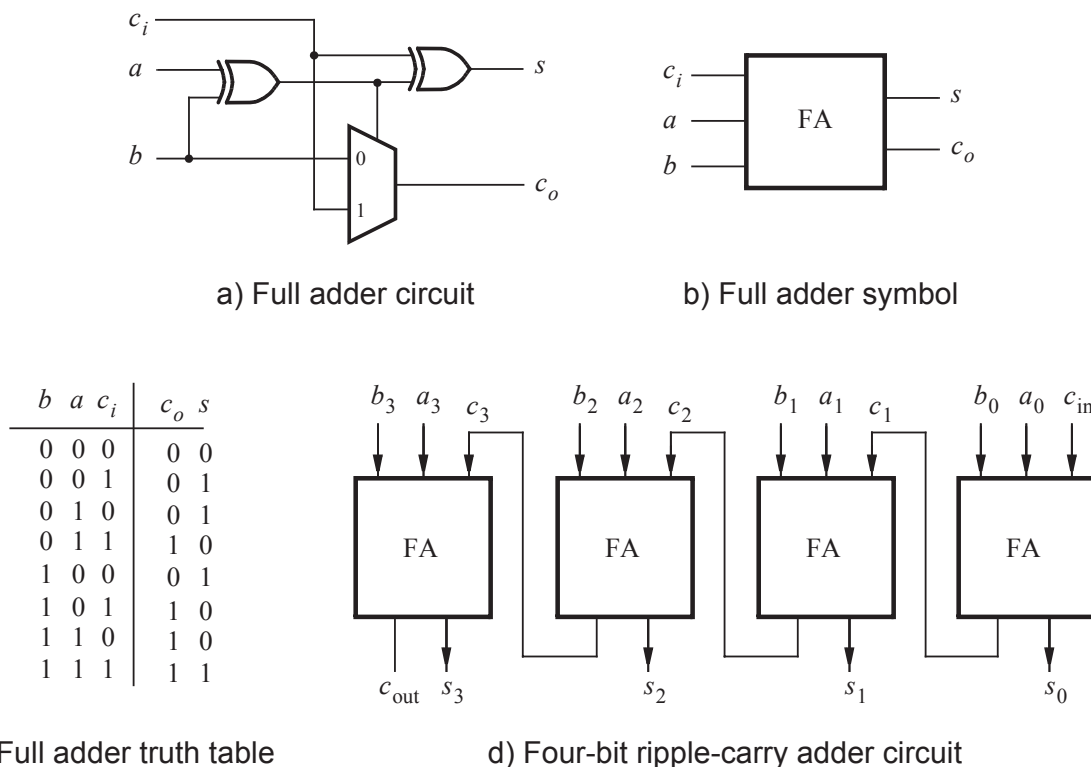

Figure 1: A ripple-carry adder circuit.
Figure 1(a) shows a circuit for a *full adder*, which has the inputs a , b , and c_i , and produces the outputs s and c_o . Parts b and c of the figure show a circuit symbol and truth table for the full adder, which produces the two-bit binary sum $c_o s = a + b + c_i$. Please note that the $+$ operator here means addition and not logic OR. Figure 1(d) shows how four instances of this full adder module can be used to design a circuit that adds two four-bit numbers. This type of circuit is called a *ripple-carry* adder, because of the way that the carry signals are passed from one full adder to the next. Write Verilog code that implements this circuit, as described below. Be sure to use what you learned about hierarchy in Lab 2.
1. Draw a schematic showing your code structure with all wires, inputs and outputs labeled. Your schematic should resemble Figure 1(d), though it should also contain module and signal labels, and shows external connections to the switches and LEDs. Be prepared to explain it to the TA as part of your preparation. **(PRELAB)**